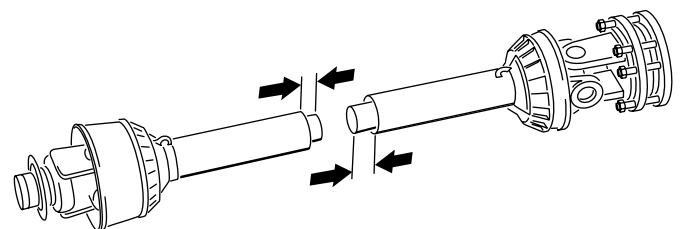

Figure 17
11. Separate the 2 halves of the PTO shaft (Figure 17).
12. Measure the distance from the end of each tube to its safety shield (Figure 17).